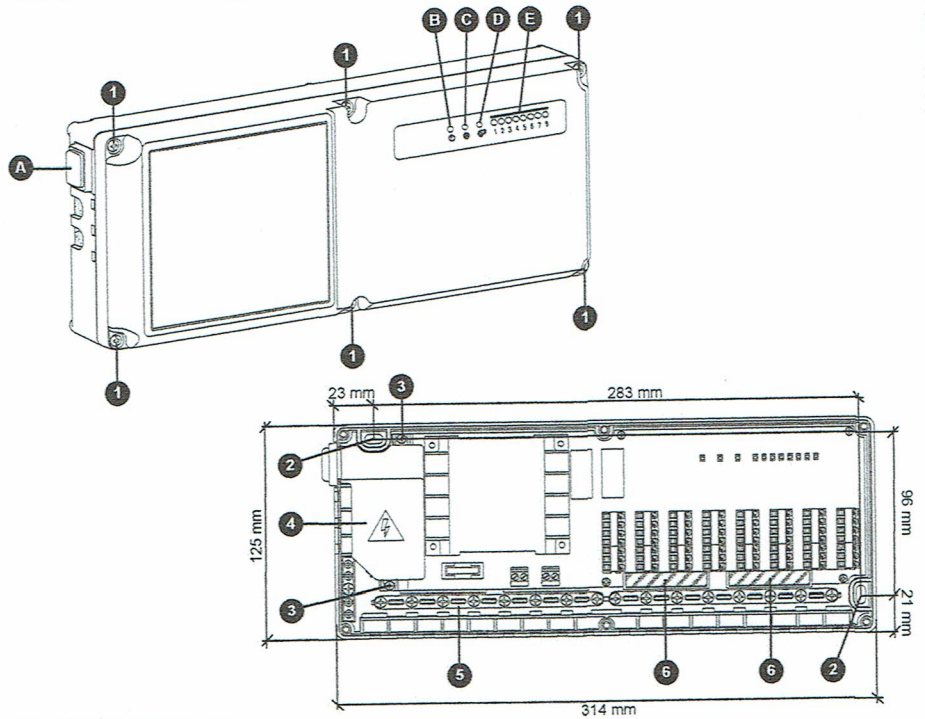
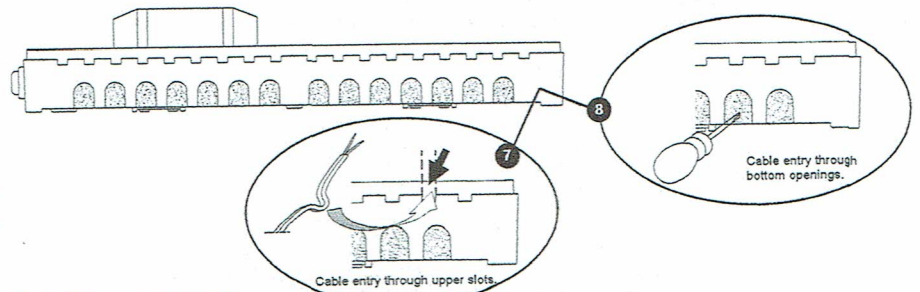

Fig. 1: Internal view and parts.
Fig. 2: Cable entry instructions.
### Green LED: power supply '⊕' (ⓑ Fig. 1)
### Red LED: pump output activation '⊗' (Ⓒ Fig. 1)
### Red LED: boiler output activation '⊗' (Ⓓ Fig. 1)
### Actuator outputs state LEDs '1..8' (Ⓔ Fig. 1)
### ON / OFF illuminated switch (Ⓐ Fig. 1)
The illuminated switch at the lower left hand side of the wiring centre will isolate the whole of the wiring centre except the parts under the plastic cover, item ④, Fig. 1, to allow access to thermostats and actuators for testing and fault finding during installation.
- Remove the 6 screws labelled as ① in Fig. 1 then remove the front plastic cover.
- Fix the device base to the wall by using the two screw holes labelled ② in Fig. 1.
- Remove the 2 screws labelled as ③ in Fig. 1 then remove the plastic cover labelled as ④ in Fig. 1.
**Cable entry from the rear ⑤:**
With the help of a screwdriver, remove the plastic knock-outs from the base, see item ⑤, Fig. 1. Cables can then be taken through the backplate to the terminal connections.
**Cable entry through the top slots in the bottom face ⑦:**
Using pliers, carefully remove the plastic 'teeth' shown arrowed ⑦, Fig. 2, then after connecting the cable to the appropriate terminal, bend it as shown in Fig. 2 and clamp using the clamps provided.
**Cable entry through the lower slots in the bottom face ⑧:**
Pierce the sponge as shown in item ⑧, Fig. 2, then pass the cable through the sponge into the centre. Make the electrical connections to the appropriate terminals and clamp using the clamps provided.